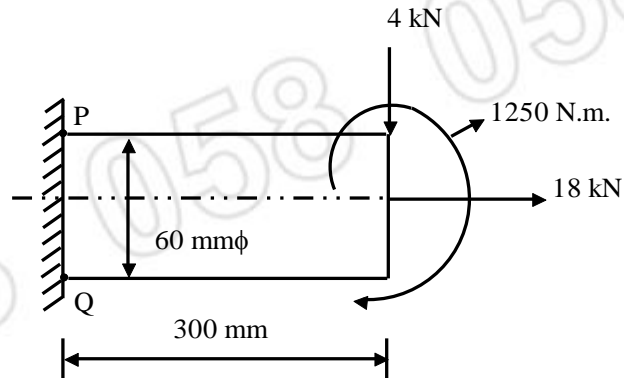

Fig. 11 (b)
- b) A shaft shown in fig. 11 (b) is subjected to bending load of 4kN, pure torque of 1250 N.m and an axial pulling force of 18kN. Calculate the stresses at points P and Q. **8**